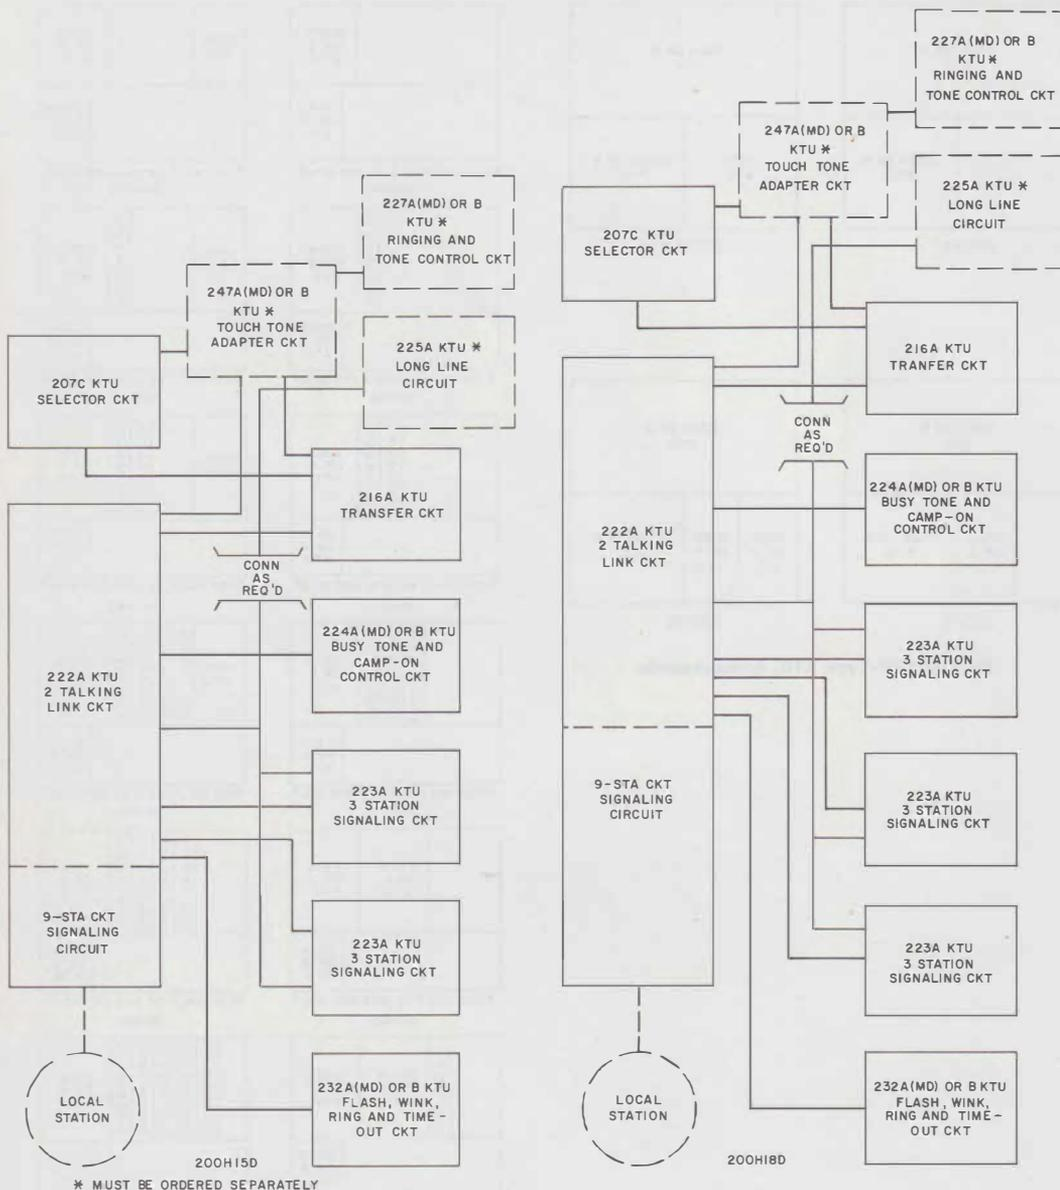

Fig. 7—200H-Type KTU, Arrangements
Fig. 7 shows the arrangement, coding (without cable terminals), and KTUs used in the 200H-type KTU.
**1.002** This addendum is issued to correct connection points of the 225A KTU in the block diagram on Fig. 7.
- (a) Fig. 7—revised